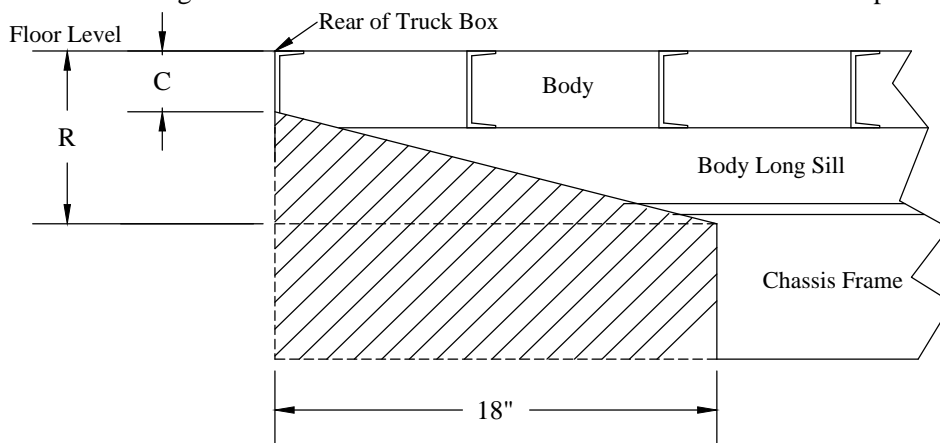
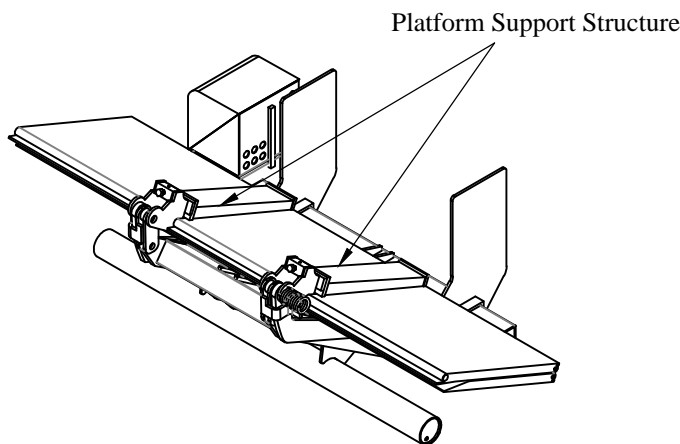

Figure 9: Frame Trim Dimensions.
Figure 10: Platform Support Structure.
5. **Measure** the truck frame for platform folding clearance using the layout chart (Figure 9 and Table 3) to provide clearance for the Platform Support Structure (Figure 10).